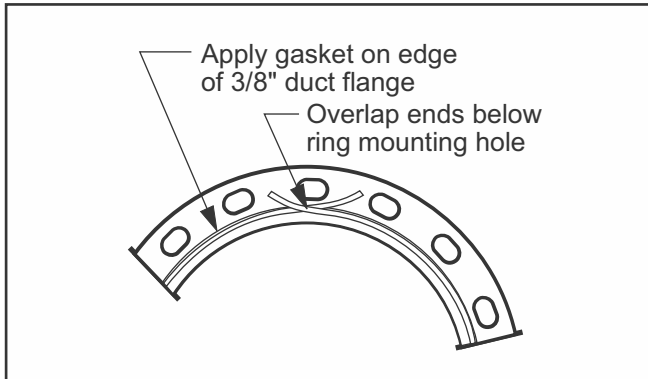

Fig. 8: Gasket installation for floating & fixed rings
3. Install Gasket 4"-100": If duct is 102" or larger, skip to step 4. To start installation, snap the gasket to peel the backing near one end. Press the exposed adhesive side of the gasket firmly onto the duct flange below one of the angle ring holes. Smoothly adhere the gasket around the outside edge of the 3/8" - 3/4" wide duct flange. Overlap the end between 1" and 2". Then run a finger around the gasket to seat the adhesive. (Fig. 8)